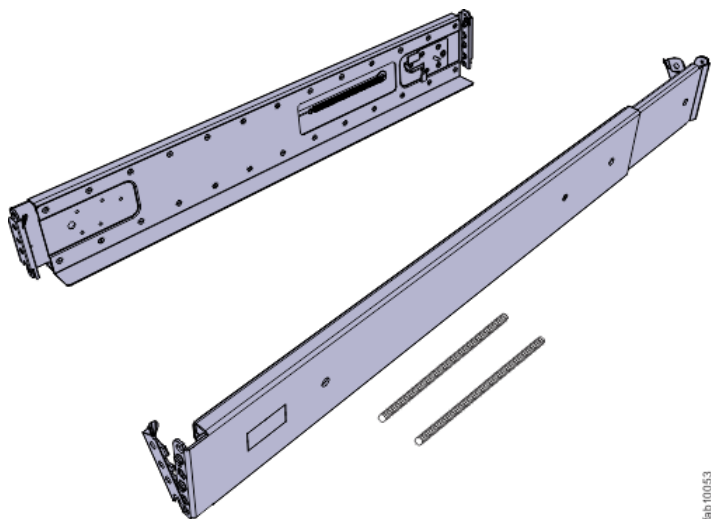

Figure 28. Expansion enclosure support rails
1. Locate the expansion enclosure rails (Figure 28 on page 66).